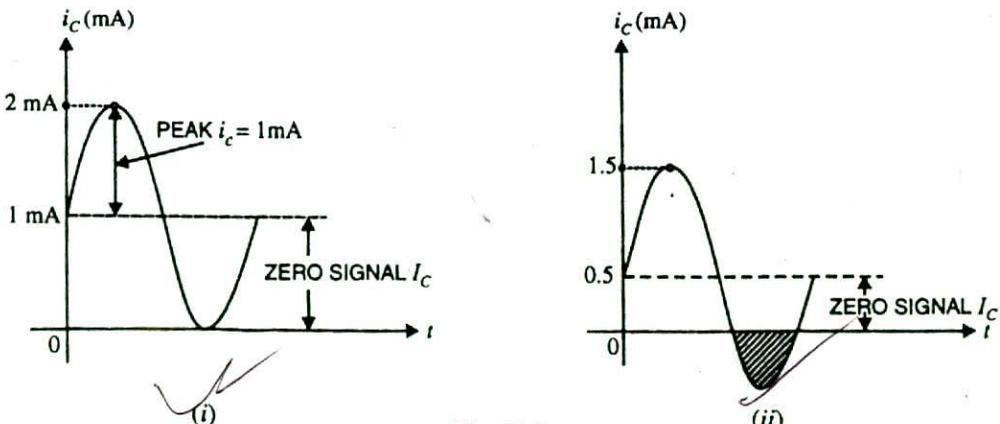

Fig. 11.2
**Illustration.** Suppose a signal applied to the base of a transistor gives a peak collector current of 1 mA. Then zero signal collector current must be at least equal to 1 mA so that even during the peak of negative half-cycle of the signal, there is no cut off as shown in Fig. 11.2 (i).
If zero signal collector current is less, say 0.5 mA as shown in Fig. 11.2 (ii), then some part (shaded portion) of the negative half-cycle of signal will be cut off in the output.